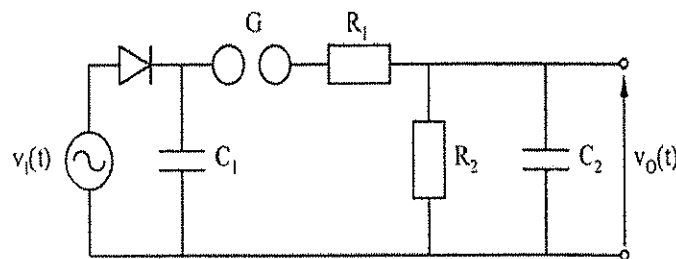

Figure 7: Single stage circuit of impulse generator.
- d) A circuit of a single stage impulse generator is shown in the Figure 7 below.